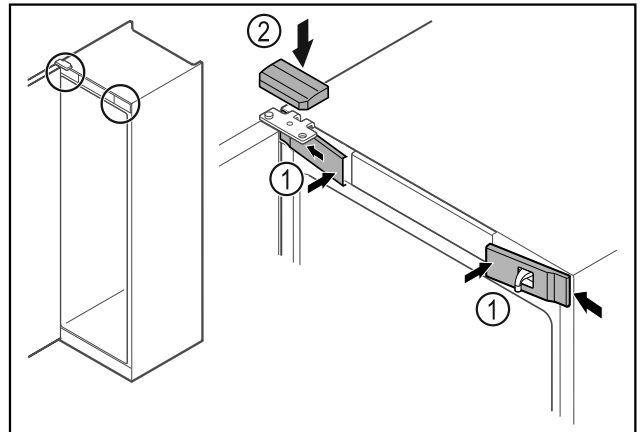

Fig. 70
- Hook in the front covers Fig. 70 (1) on the side and snap them into place.
- Snap on the top cover Fig. 70 (2) from above.